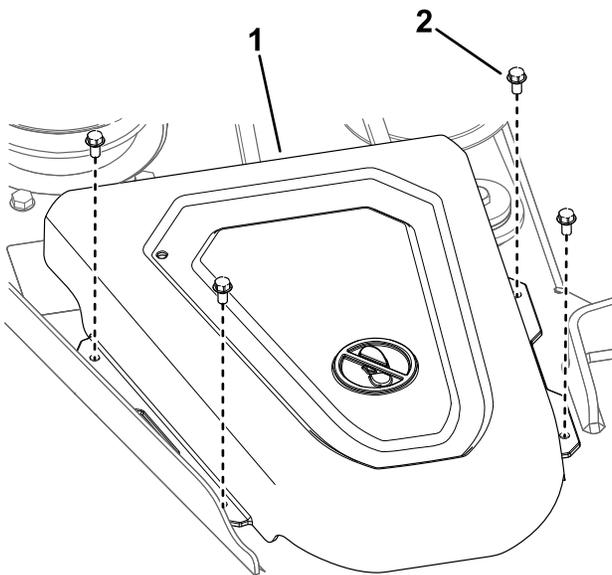

Figure 51
4. Remove the pulley covers (Figure 51).